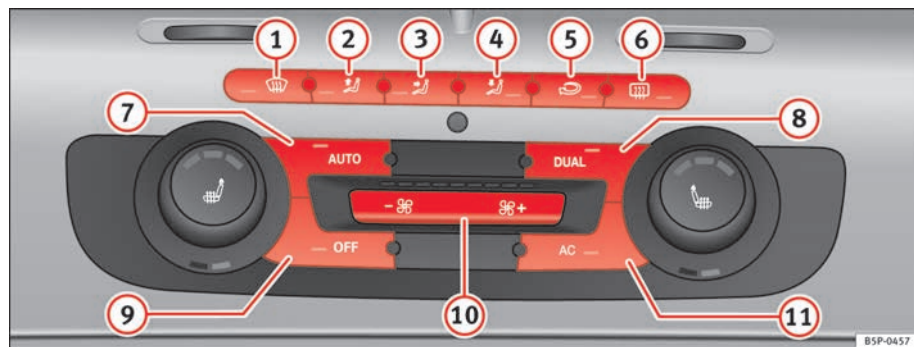

Fig. 132 On the instrument panel: 2C Climatronic controls.
- To enter manual mode, press one of the buttons ⇒ fig. 132 ① to ⑤ or press the air flow control ⑩. The selected function is shown on the radio or navigator display.
- Press the button  ⇒ page 162, fig. 132  to switch air recirculation mode on or off. It is switched on if the following symbol appears in the display .